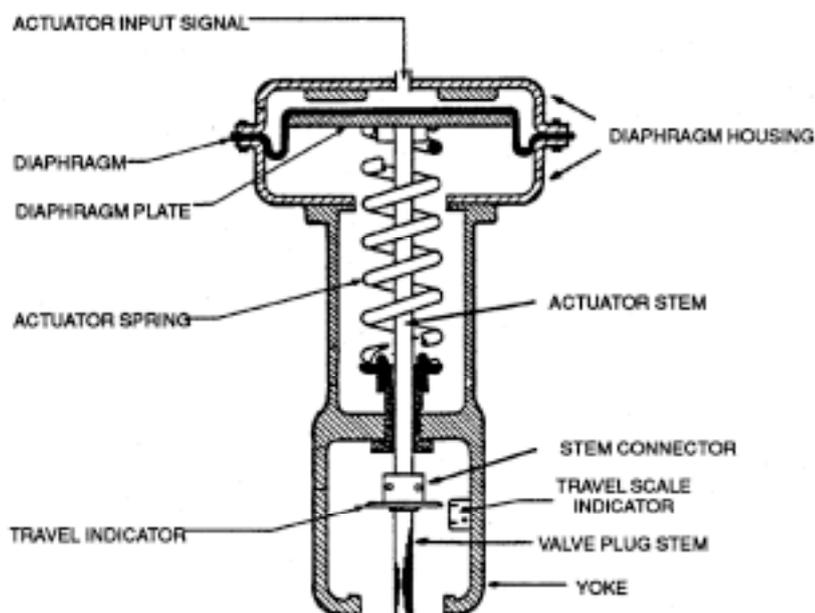

Figure 4: A Typical Pneumatic Diaphragm Actuator.
- A typical pneumatic diaphragm actuator is shown in Figure 4.